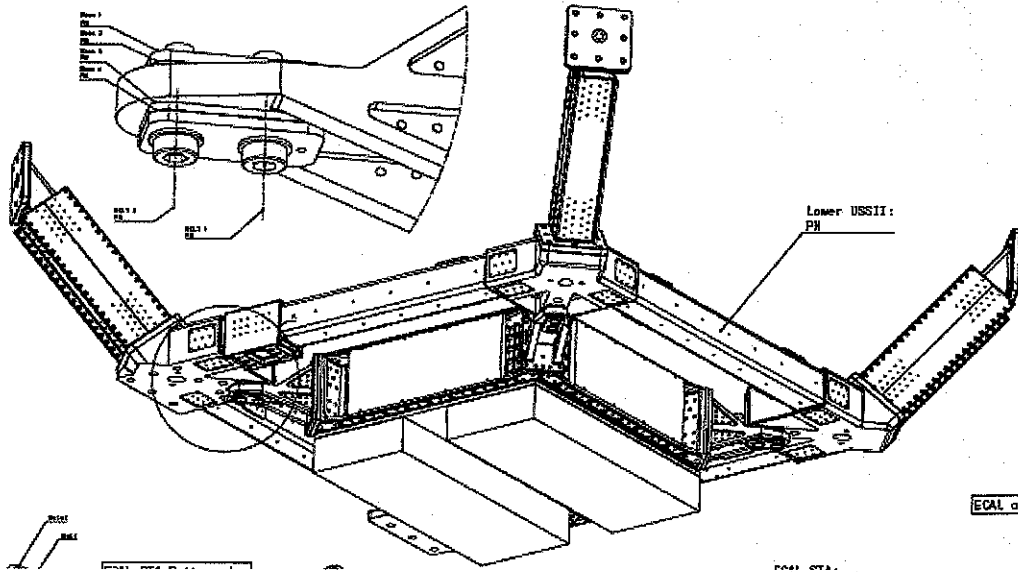

Figure 3
5. Place the LUSS, along with the attached ECAL on a wooden surface, or equivalent to allow access to the ECAL mounting bolts shown in Fig. 3.
6. Remove the eight (8) bolts, NAS1960C30, and washers, NAS1587-10C, that fastened the ECAL to the Lower USS-02. See Figure 3. Place the fasteners in the marked bag for identification.